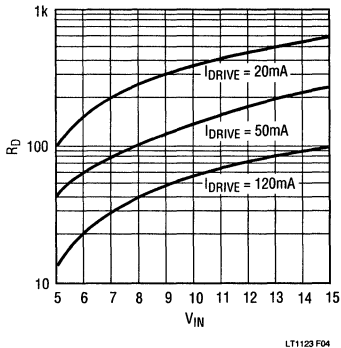

Figure 4. R_D Resistor Value
Figure 4 can be used to select the value of R_D based on the required drive current and the minimum input voltage. Curves are shown for 20mA, 50mA, and 120mA drive current corresponding to the specified base drive currents for the MJE1123. The data for the curves was generated using the following formula:
2. The next step is to determine the value of R_D . Based on 50mA of drive current and a minimum input voltage of 5.5V, we can select R_D from the graph of Figure 4. From the graph the value of R_D is equal to 50Ω, so we should use the next lowest 5% value which is 47Ω.